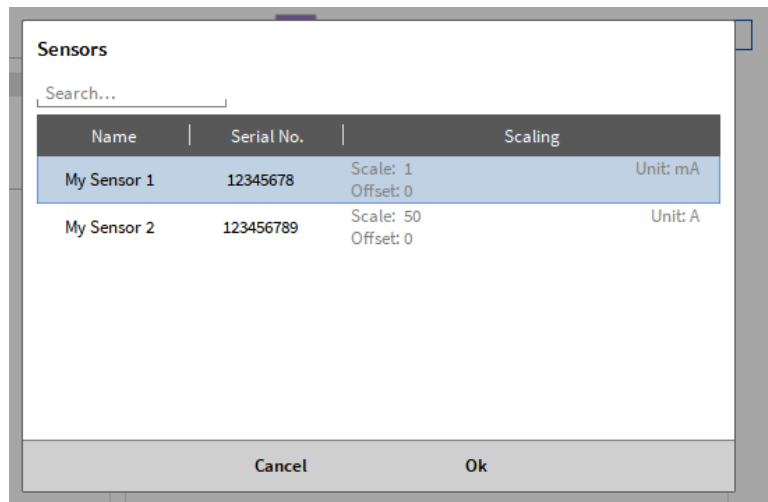

Fig. 6.15: Pop-up window to apply a sensor for a channel in the channel settings
- A pop-up window will appear with a list of all defined sensors seen in Fig. 6.15.